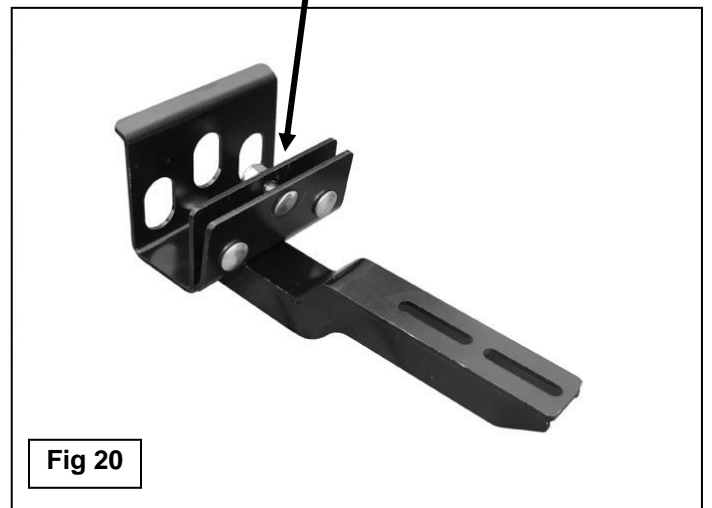
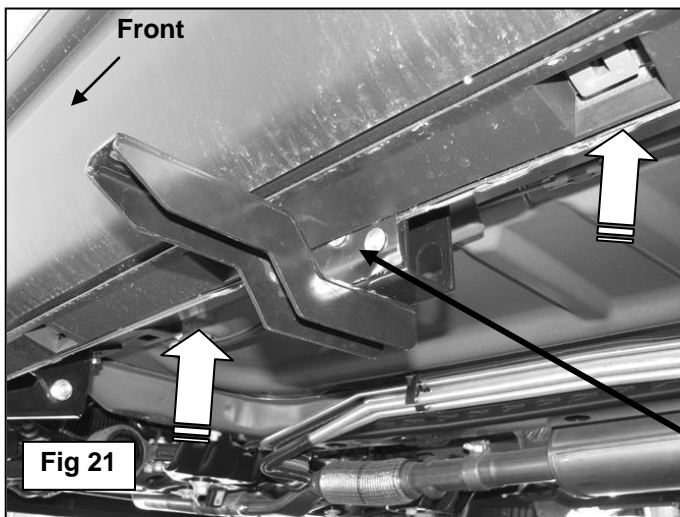

Fig 20
Fig 21
17. Reinstall the center Bracket assembly, **(Figures 20 & 21)**. Line up the outer Clamp Plate with the drilled hole. Pull the plastic cover back a little, **(Figure 21)**, and insert (1) 8mm Carriage Bolt through the center hole in the Outer Clamp Plate, the drilled hole and into the Bracket. **IMPORTANT:** Release the factory plastic clips in the bottom of the plastic rocker cover for easier installation of the 8mm Carriage Bolt, **(Figure 21)**. Secure the Bracket to the center bolt with (1) 8mm Flat Washer and (1) 8mm Nylon Lock Nut, **(Figures 22 & 23)**.